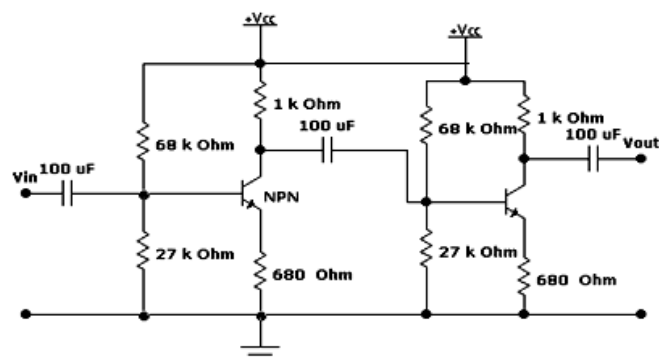

Figure 1: R-C coupled two-stage BJT amplifier
Resistance-capacitance (RC) coupling is most widely used to connect the output of first stage to the input (base) of the second stage and so on. It is the most popular type of coupling because it is cheap and provides a constant amplification over a wide range of frequencies. These R-C coupled amplifier circuits are commonly used as voltage amplifiers in the audio systems. Figure 1 shows the circuit diagram of the R-C coupled two-stage BJT amplifier.
1. Make a circuit as shown in figure 1.